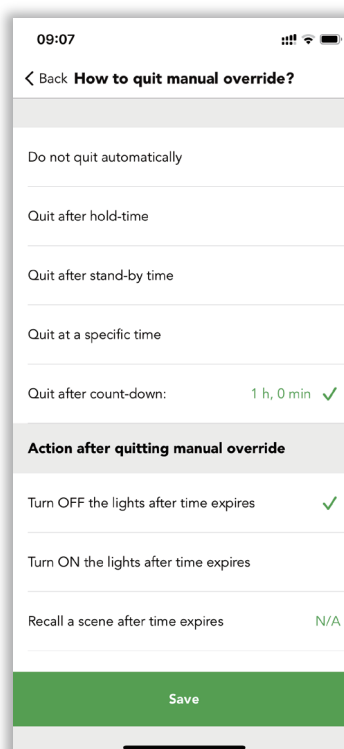

Figure 8.8 Quit mode-3
5. Quit after count-down time. We also provide a count-down method for the users. If the users know what time they want to stay in the manual control mode, they can use this option. For example, in an office, the maintenance team will usually take 1 hour to quickly check the whole office luminaires status. So, once they process the checking, they will switch all the luminaries to 100% brightness through the push switch, users can set the count-down time to 1 hour (see figure 8.8). After 1 hour the maintenance team finished their work, the luminaries will switch back to the auto mode and will run the dedicated scene automatically.